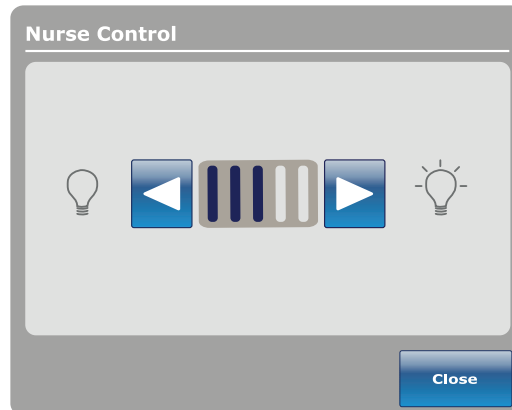

Figure 90: Nurse control LED intensity
2. Tap the left or right arrow (Figure 90 on page 81).
3. To save the LED intensity setting, tap **Close** (Figure 90 on page 81).